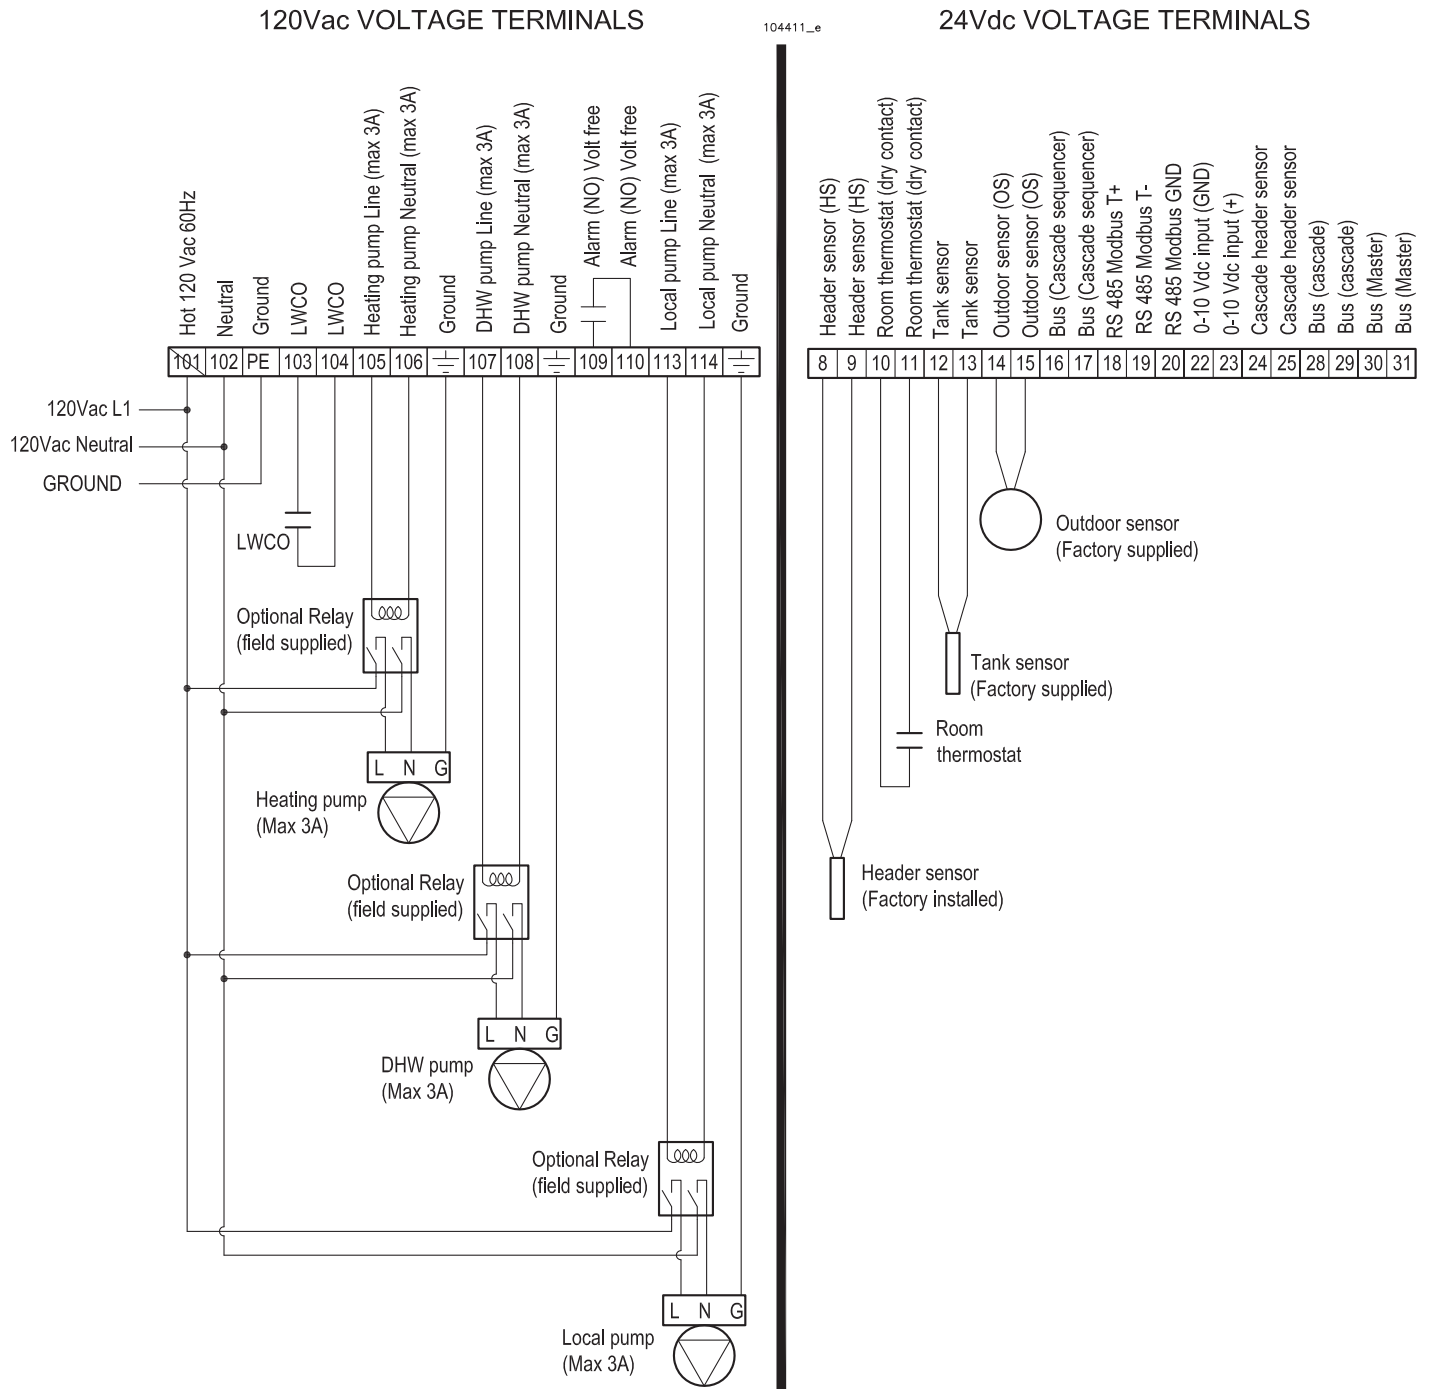

Figure 9-4 Electrical connections
- 3.- Connect the cable leads to the "10" and "11" terminals as shown in Figure 9-4.
upper half of the second floor. Do not install the sensor above doors, windows or ventilation outlets nor directly under balconies or gutter pipes. Do not shield the outdoor temperature sensor. Do not install the sensor on walls without overhangs, or not protected from rain. Connect the outdoor temperature sensor to the appliance to terminals "14" and "15" (See Figure 9-4):
On appliances model 399, 500, 750 and 1000 it is factory supplied the 885IF board that permit installer to drive the unit via a Vcc input. To do this, you have to connect the Vcc supply between terminals "22" and "23" (see Figures 9-4). Also, the CH mode (parameter 2003 as per Section 15.13) must be set to 4 value. Now the appliance can start to receive
CAUTION!!! Use only LWCO sensor device. To use water flow switch ask engineering wiring diagram to the manufacturer. Install LWCO device as per engineering method. Connect LWCO terminals to "103" and "104" appliance terminals (Figure 9-4).
- 2.- The indirect water heater pump (DHW pump) must be connected to terminals “107” and “108” (See Figure 9-4); a field supplied pump relay must be installed if the pump current draw is greater than 3 amps as indicated in Figure 9-4;
- 3.- The indirect water heater temperature sensor (Tank sensor) must be connected to terminals “12” and “13” (See Figure 9-4).